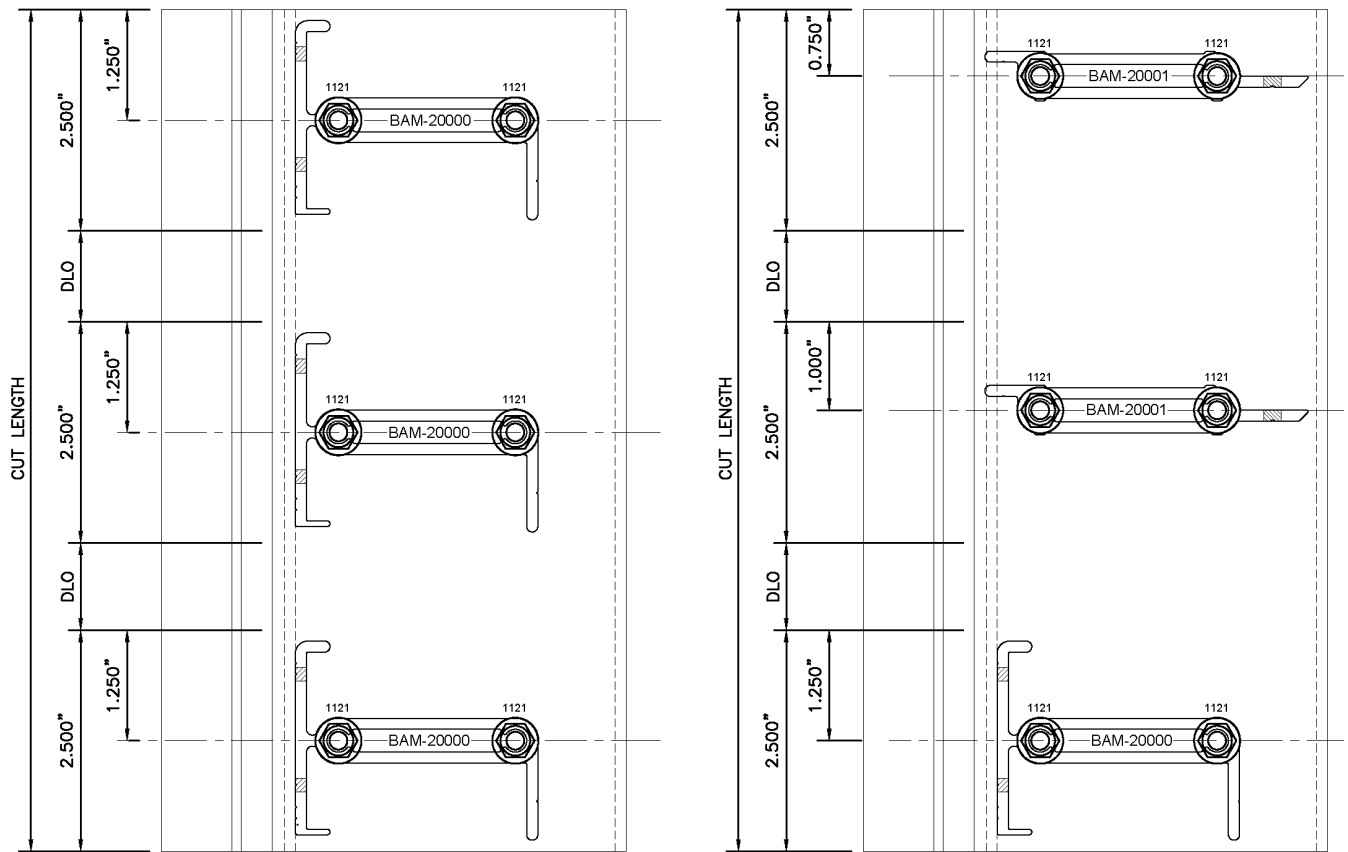

FIGURE A.1
- Attach shear blocks to vertical mullions. (FIGURE A.1)